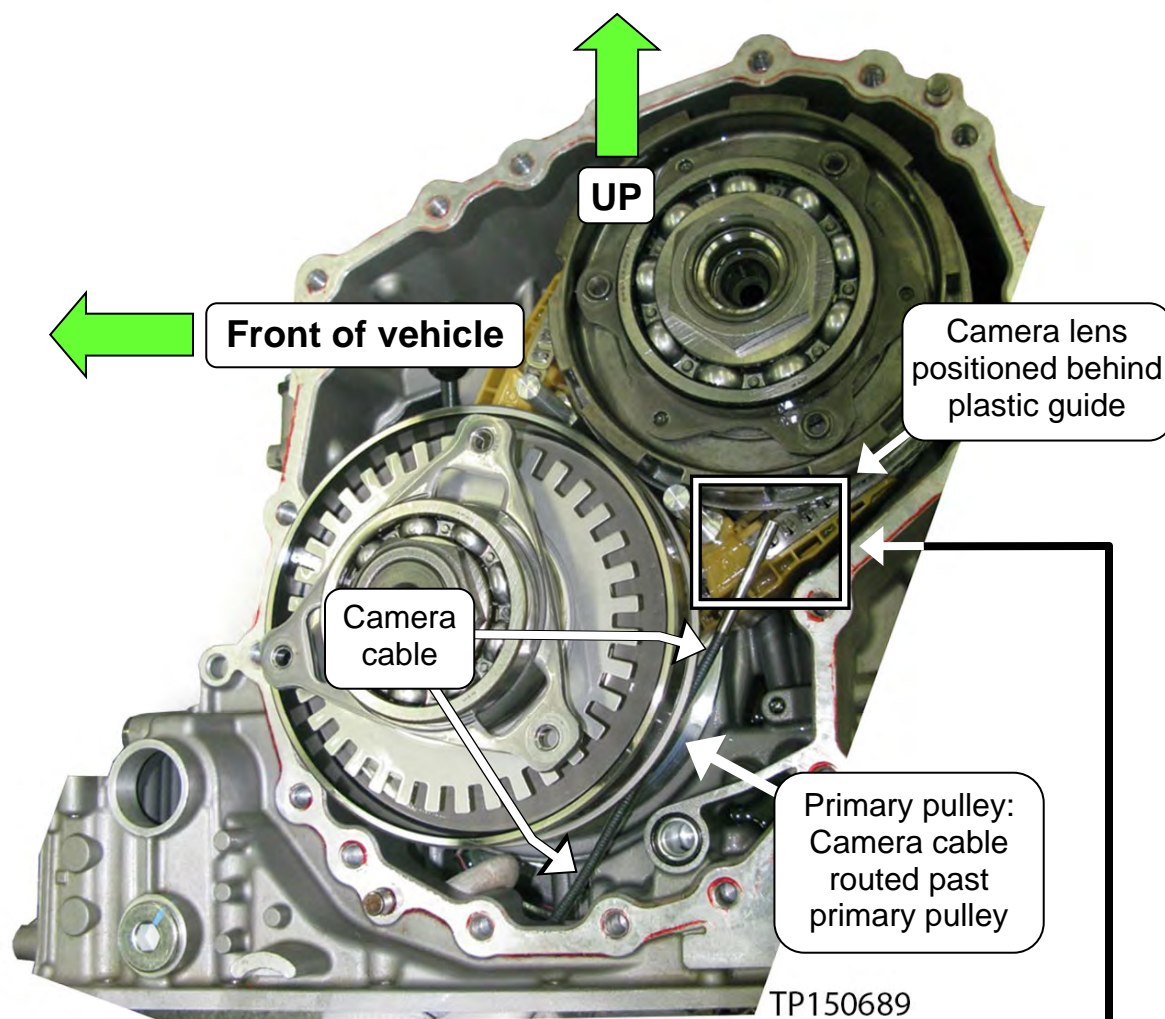

Figure 8
- a. First inspect the entirety (360°) of the driver side of the chain that comes in contact with the pulley (see page 11, Figure 8 and 9, and page 12, Figure 11).
- Figures 8 and 9 shows the routing and location of the camera.